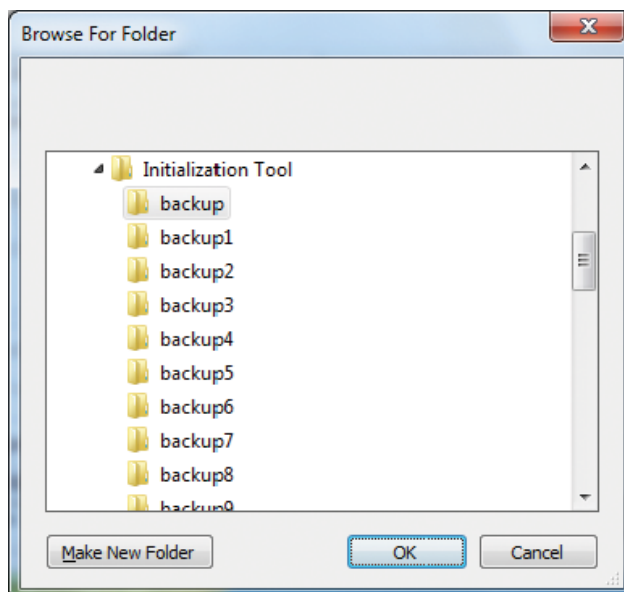

Fig.252 [Browse For Folder] screen
- 3 Specify a folder in which to download. (Fig.252)**